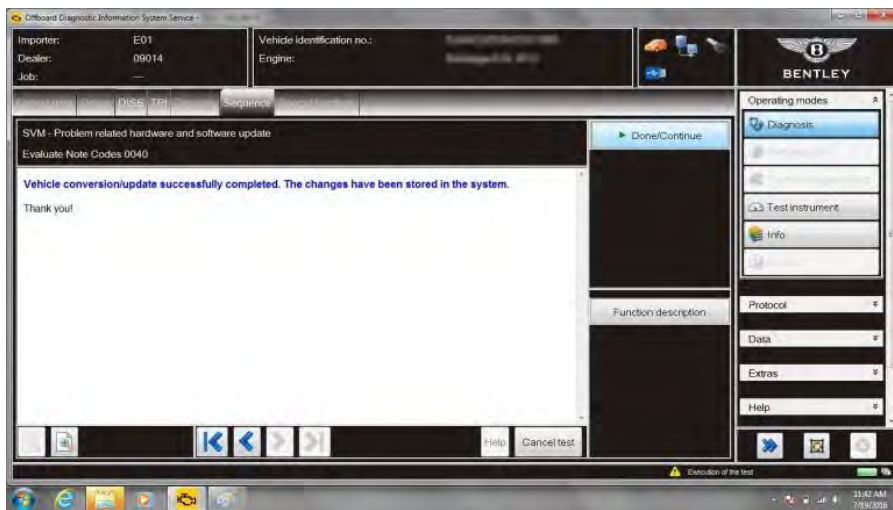

Figure 6
25. Select Done/Continue at successfully complete to finalise the update (see Figure 6)